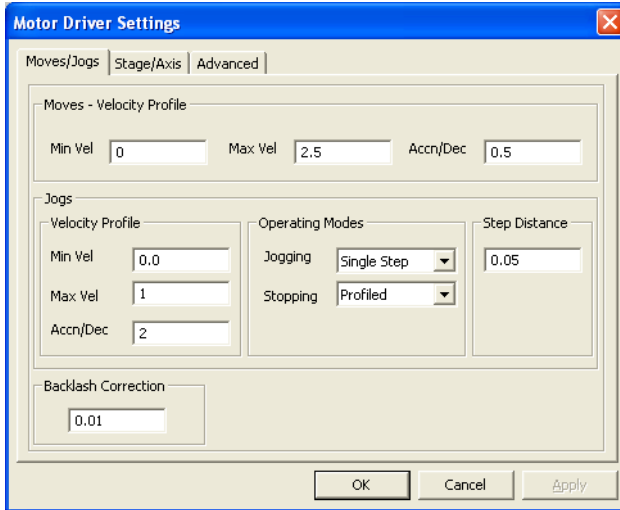

Fig. 3.6 Settings Panel - Move/Jogs Tab
- 2) Select the Move/Jogs tab as shown in Fig. 3.6.